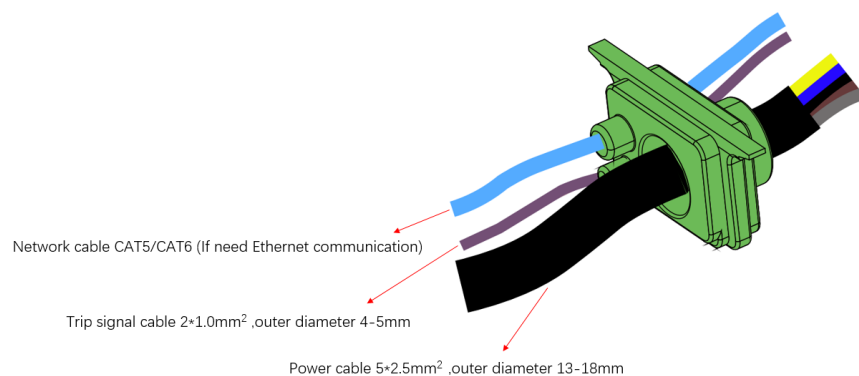

Figure 8 Passing cable into the cable inlet rubber plug
③ Pass the power cable and trip signal cable into the sealing rubber plug. If network cable needs to be connected, please pass the network cable into it, as shown in Figure. 8.